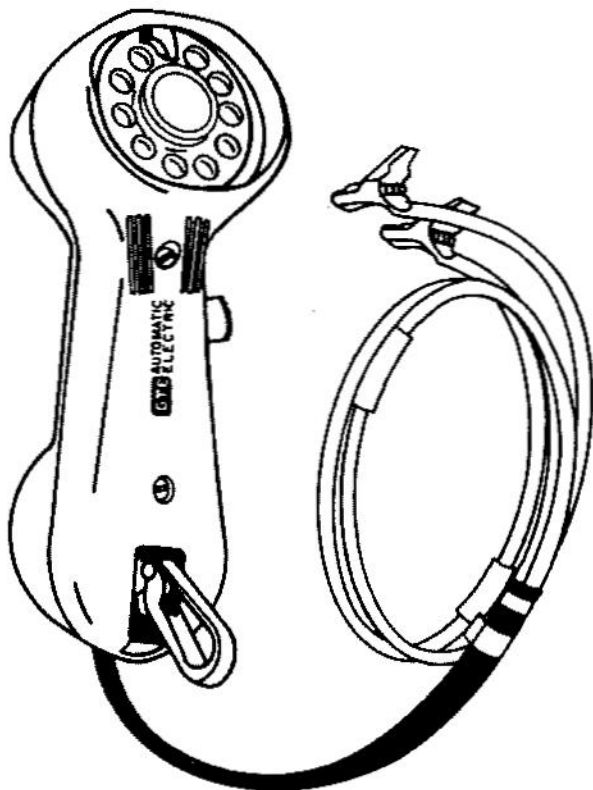

Figure 1. Type 801 Hand Test Telephone.
1.02 The Type 801 hand test telephone (Figure 1) is a dial-equipped handset that can be used to perform dialing, talking, monitoring, and line polarity tests. A convex mode switch located in the hand grip is used to condition the telephone for the various tests. The performance features of the hand test telephone are as follows: